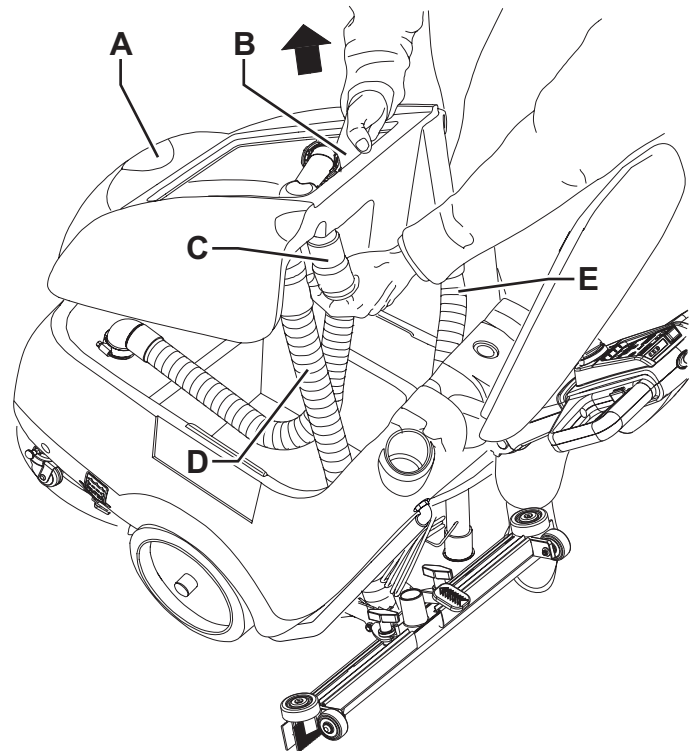

Figure 6
1. Check that the knob (62) is turned to "0".
2. Empty the recovery tank (30) as shown in the relevant paragraph.
4. Disconnect the vacuum hose (22) from the squeegee (11).
5. Disconnect the recovery water drain hose (16) from the bracket (17).
6. Open the cover (6).
7. Grasp the recovery tank (A, Fig. 6) in the area (B) and slightly raise it.
8. Disconnect the vacuum hose (C) from the tank, then remove the tank (A) with the hoses (D) and (E).